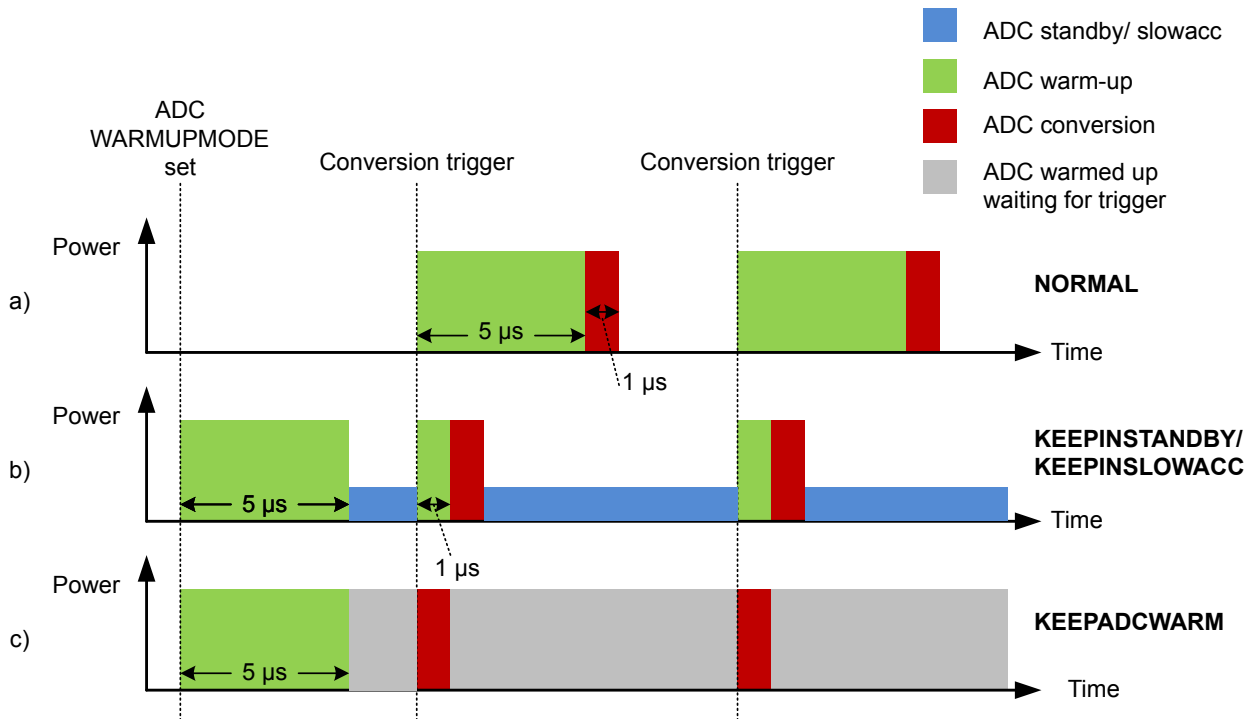

Figure 27.4. ADC Analog Power Consumption With Different WARMUPMODE Settings
Normally, the ADC will be warmed up only when samples are requested and is shut off when there are no more samples waiting. However, if lower latency is needed, configuring the WARMUPMODE field in ADCn_CTRL allows the ADC and/or reference to stay warm between samples, reducing the warm-up time or eliminating it altogether. Figure 27.4 ADC Analog Power Consumption With Different WARMUPMODE Settings on page 887 shows the effects on analog power consumption in scenarios using different WARMUPMODE settings.
- **NORMAL:** This is the lowest power option for general-purpose use and low sampling rates (below 35 ksps). The ADC and references are shut off when there are no samples waiting. The ADC does not consume any power when it is shut down. A 5 μ s warmup time will be initiated prior to every conversion. Figure a in Figure 27.4 ADC Analog Power Consumption With Different WARMUPMODE Settings on page 887 shows this mode.
- **KEEPINSTANDBY:** This mode is suitable for infrequent sampling of lower impedance inputs, and is the lowest power option for sampling rates between about 35 and 125 ksps. It may also be useful for lower sampling rates where latency is important. The reference selected for scan mode is kept warm, but the ADC is powered down. The ADC will initiate a 1 μ s warmup period before a conversion begins. Because the reference is kept warm, the ADC will consume a small amount of standby current when it is not converting. Figure b in Figure 27.4 ADC Analog Power Consumption With Different WARMUPMODE Settings on page 887 shows this mode.
- **KEEPADCWARM:** This mode provides the lowest latency and allows for maximum sampling rates. The ADC and reference circuitry remain powered on even when conversions are not in progress. Figure c in Figure 27.4 ADC Analog Power Consumption With Different WARMUPMODE Settings on page 887 shows this mode. This mode consumes the most power, but as soon as a trigger event occurs, the acquisition and conversion begin with no warm-up time. Note that if KEEPADCWARM mode is set and HFXO is selected as the ADC clock source, the HFXO will remain on in EM2.